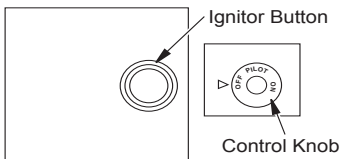

Figure 37 - Control Knob and Ignitor Button Location
5. Wait five (5) minutes to clear out any gas. Then smell for gas, including near the floor. If you smell gas, STOP! Follow "B" in the safety information, column 1. If you don't smell gas, go to the next step.
6. Press in and turn control knob counterclockwise ↻ to the PILOT position. Press in control knob for five (5) seconds (see Figure 37).